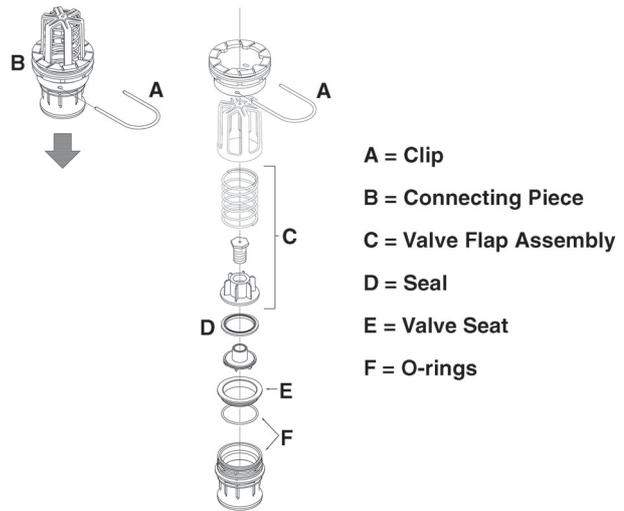

Fig 37
- 3 Pull out the clip (A Fig 37) and pull down the connecting piece (B Fig 37). The entire valve assembly can now be pulled out.
- 4 Check the cord and valve flap assembly (C Fig 37) for wear, replace the seal (D Fig 37) and reassemble.
- 5 Assemble the valve assembly again using a new valve seat (E Fig 37). Lubricate the O-rings (F Fig 37) before assembly.
- 6 Fit the clip (A Fig 37) again.